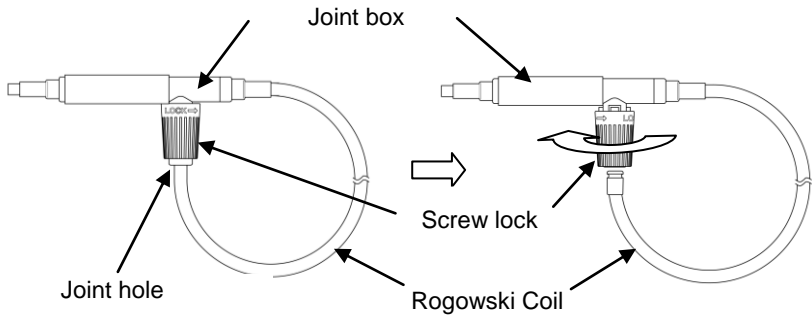

Figure 4.1 How to Release Rogowski Coil
- (1) Make sure that all preparations described in the previous section are completed.
- (2) Set up a target to be measured so that it can be used.
- (3) Place the target to be measured through the Rogowski Coil Sensor part.
- a) As illustrated in Figure 4.1, to release the lock of the Rogowski Coil, be sure to turn the screw lock in a direction opposite the direction indicated by "LOCK" until you feel a click. After releasing the lock, remove the one end of the Rogowski Coil from the joint hole.